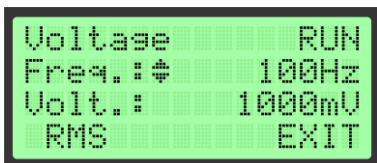

Figure 9 Changing Frequency
User can navigate through the offered options by Using Up (▲) and Down (▼). These options consist of several functions. If the user sets the cursor in the Frequency position (See Figure 9), after Enter pressing (E), Up-Down arrow will appear signaling the device has entered the mode for changing frequency value. By using Up (▲) and Down (▼) the user can increase or decrease the desired frequency value. Pressing long Up (▲) or Down (▼) will automatically increase or decrease frequency value. When the user sets an appropriate value for frequency, pressing Enter (E) will confirm it and return to Menu.